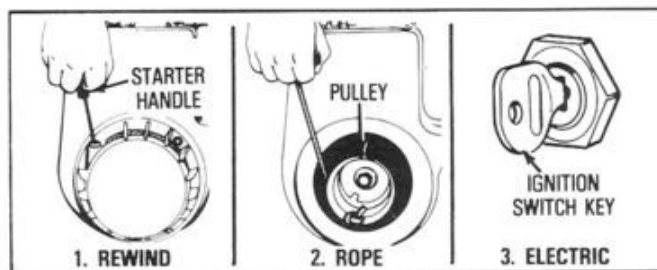

Figure 2
1. REWIND STARTER (see Figures 2 and 3)
A. Grasp STARTER HANDLE (see Figure 2) and pull rope out, slowly, until it pulls harder due to engine compression. Let rope rewind slowly.
2. ROPE STARTER (see Figure 2)
3. ELECTRIC STARTER — 12 VOLT D.C. (see Figures 2 and 3)
A. Press starter button or turn IGNITION SWITCH KEY (see Figure 2) per equipment manufacturer's instructions to activate starter motor and crank engine.
- Grasp **STARTER HANDLE** (see Figure 2) and pull rope out, slowly, until it pulls harder due to engine compression. Let rope rewind slowly.
- Press starter button or turn **IGNITION SWITCH KEY** (see Figure 2) per equipment manufacturer's instructions to activate starter motor and crank engine.